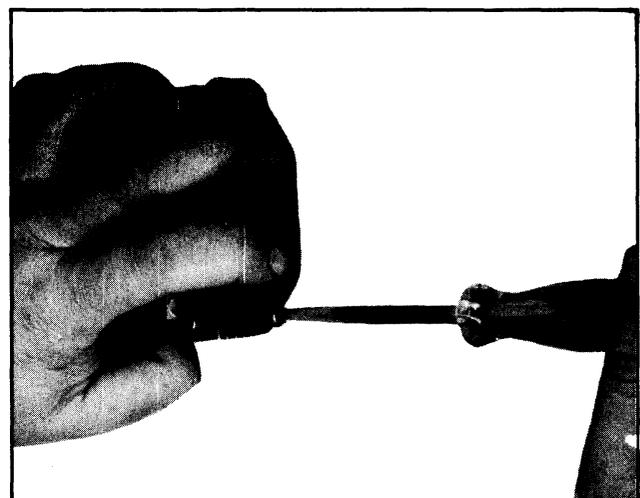

Fig. 3-120 Regulator Body Removal
8. Lay the valve body on a flat surface, and while holding the regulator body, remove the 4 attaching screws. (See Fig. 3-120)